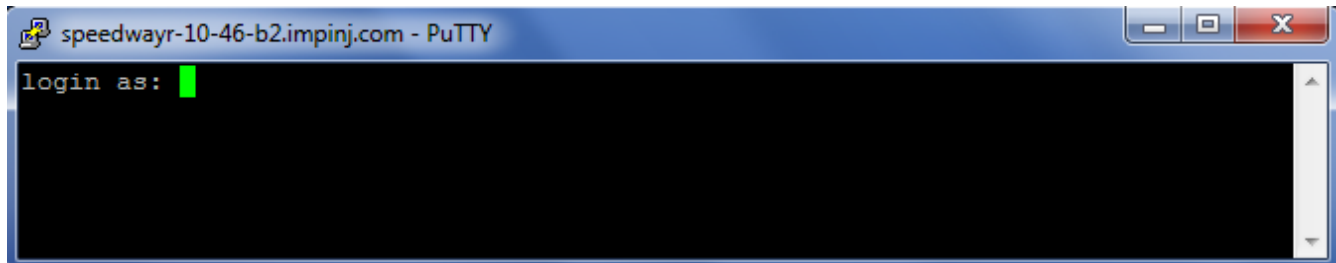

Figure 5.7 COM1 Putty Login Prompt
8. At the RShell login prompt shown in Figure 5.7, log in with the following default credentials, unless you have customized them: